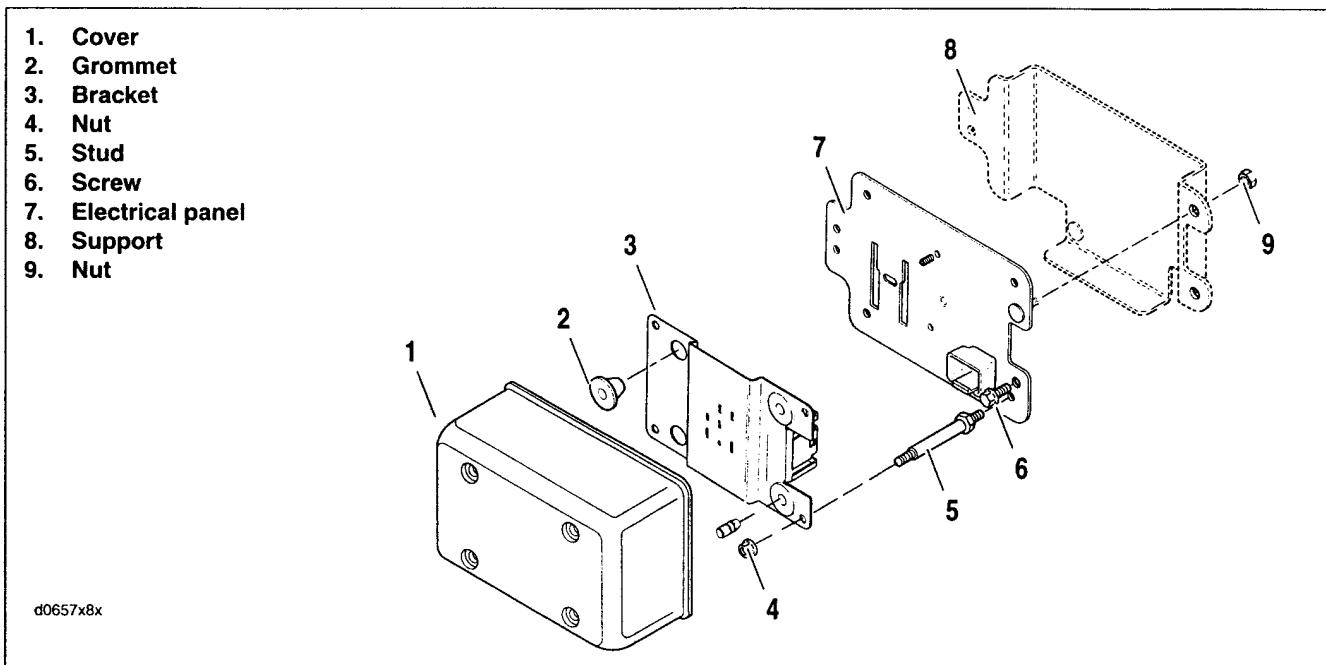
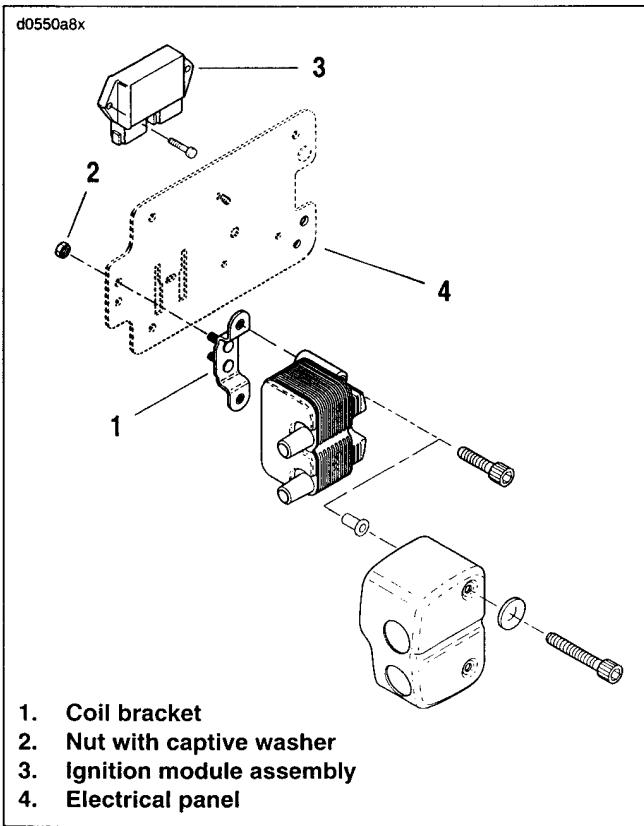

Figure 8-5. Electrical Panel
Figure 8-6. Coil Mounting Bracket
2. See Figure 8-5. Remove nut (9) from upper right hand corner on backside of electrical panel.
3. Remove screw (6) on the electrical panel.
4. See Figure 8-6. Remove the two nuts with captive washers (with coil cover on FXDL, FXDXT and FXDWG).
1. See Figure 8-6. Install coil mounting bracket (1) and coil assembly (with coil cover on FXDL, FXDXT and FXDWG) using two nuts with captive washers (2).
3. See Figure 8-5. Install nut (9) and screw (6) to secure right side of panel.